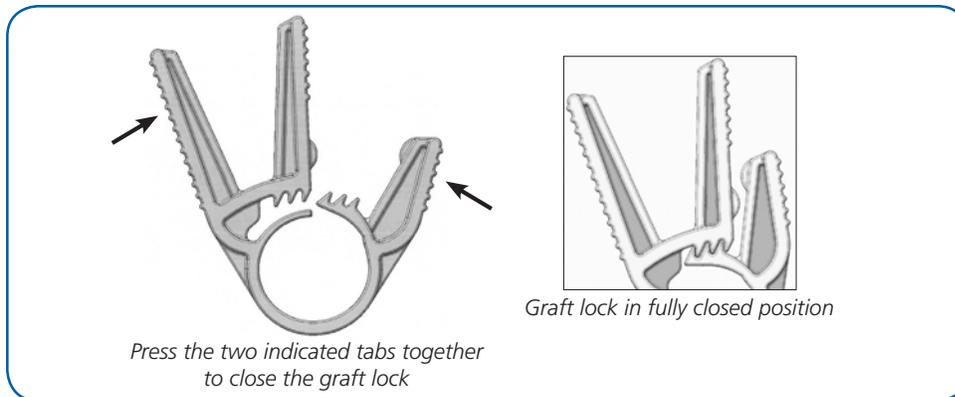

Figure 5.28 Closing the Graft Lock
5. Secure the graft lock by pressing both the outside tabs together. When fully closed, the graft lock provides hemostasis. If hemostasis is not achieved, make sure to press the two tabs together to fully close the graft lock as shown in Figure 5.28. The graft lock cannot be damaged by over closing. NOTE: The graft may also be secured over the introducer using heavy sutures or umbilical tape.